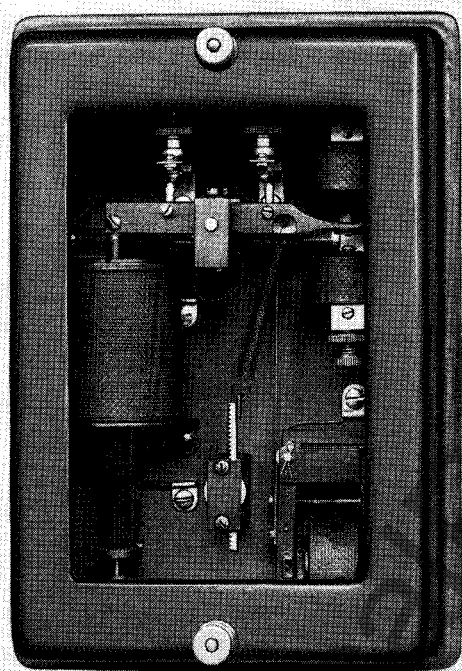

FIG. 1. Voltage Regulating Relay.
**THE VOLTAGE REGULATING RELAY** consists of a solenoid operated balance arm, pivoted at the center, with contacts on either side working in conjunction with two adjustable stationary contacts. In the balanced or horizontal position, neither pair of contacts is closed. The closing of either contact energizes a corresponding compounding coil, which increases the pressure on the contacts, prevents chattering and holds the contacts firmly closed until the balance voltage is nearly reached again. The no-voltage device opens the circuit to contacts PR and PL through the balance arm. See Fig. 1 and 2.